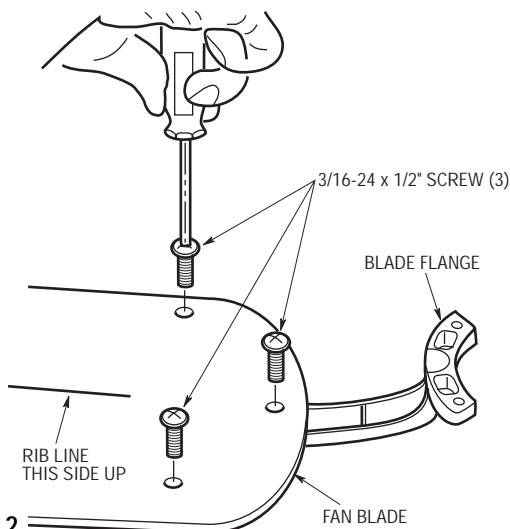

Figure 2
**IMPORTANT: THE SIDE OF THE FAN BLADE HAVING THE RIB LINE MUST BE FACING UPWARDS AS SHOWN IN FIGURE 2.**
- 7. Mount blade flanges to fan blades using three 3/16-24 x 1/2" screws per blade (Figure 2).